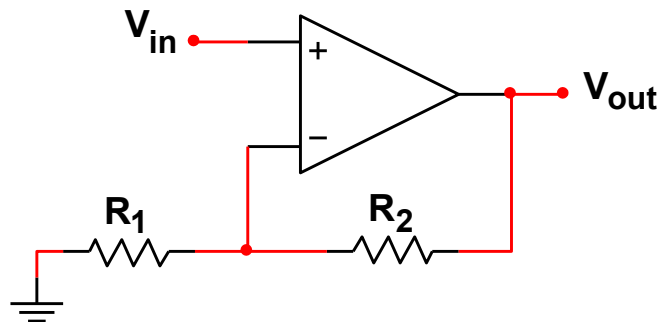

Figure P.2 – Non-Inverting Amplifier
- Using **Table 1** and **Figure P.2**, design a **DC Non-Inverting Amplifier** that has the following specifications:
- Closed Loop Voltage Gain (K) = 10**